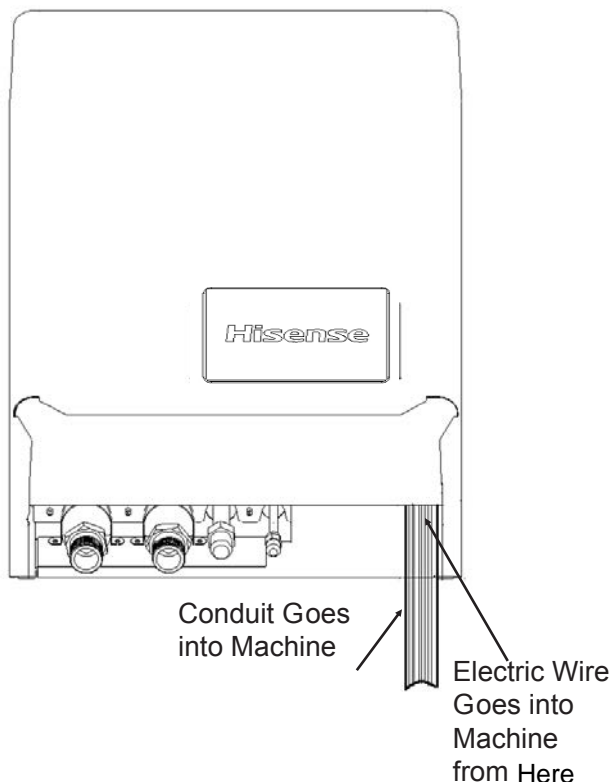

Fig.10.1 Electric Wiring Location Diagram
(1) See holes linking electric wire in water module in Fig.10.1.